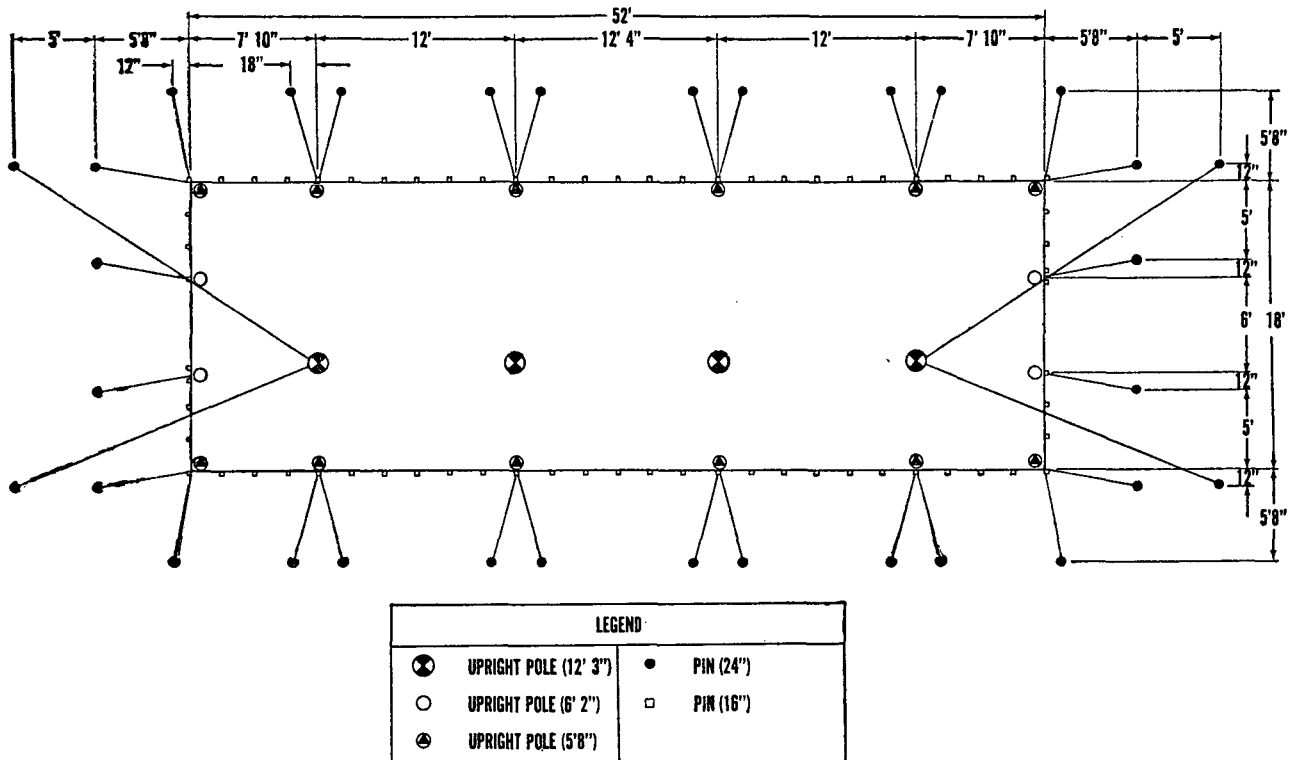

Figure 20. Ground plan of tent, general purpose, large.
c. Ground Plan. Before pitching the tent, study the ground plan carefully (fig. 20).